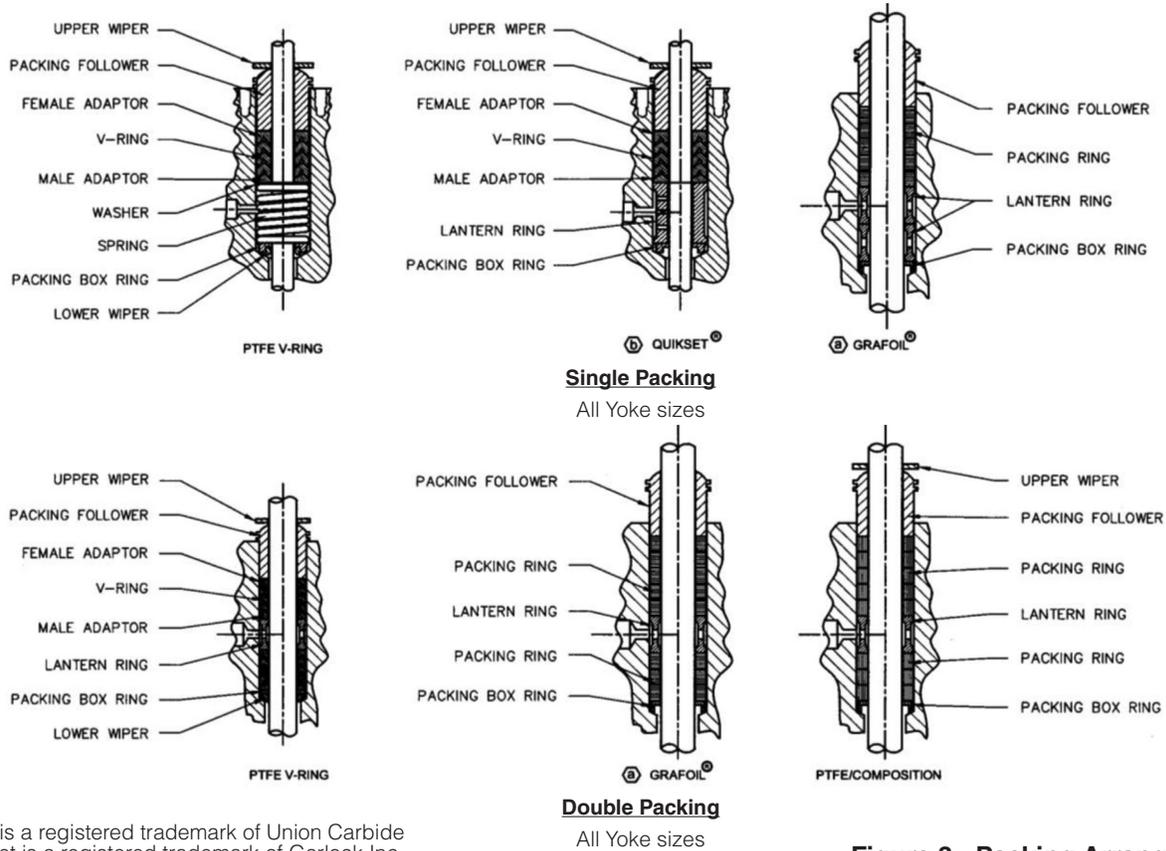

Figure 3: Packing Arrangements
5. Complete the installation of the packing as illustrated in Figure 3.